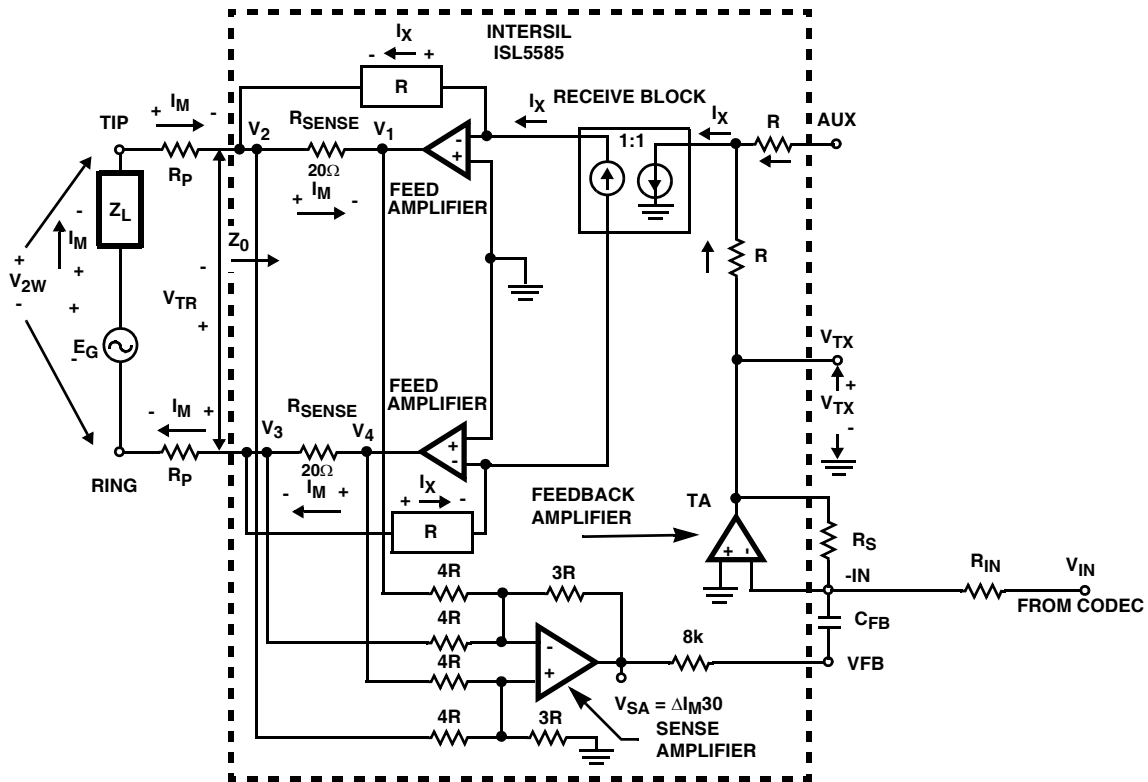

FIGURE 4. AC SIGNAL TRANSMISSION MODEL
The feedback mechanism for monitoring the AC portion of the loop current consists of two amplifiers, the Sense Amplifier (SA) and the Transmit Amplifier (TA). The AC feedback signal is used for impedance synthesis. A detailed model of the AC feed back loop is shown in Figure 4.
The Sense Amplifier is configured as a 4 input differential amplifier with a gain of 3/4. The voltage at the output of the sense amplifier ( $V_{SA}$ ) is calculated using superposition.  $V_{SA1}$  is the voltage resulting from  $V_1$ ,  $V_{SA2}$  is the voltage resulting from  $V_2$  and so on (reference Figure 4).
$V_{TR}$  is defined in Figure 4, note polarity assigned to  $V_{TR}$ :
Node Equation at ISL5585 AUX input, Figure 4
4-wire to 2-wire gain across the ISL5585 is equal to the  $V_{2W}$  divided by the input voltage  $V_{\text{IN}}$ , reference Figure 4. The receive gain is calculated using Equation 32.
The 2-wire to 4-wire gain is equal to  $V_{\text{TX}}/E_G$  with  $V_{\text{IN}} = 0$ , reference Figure 4.